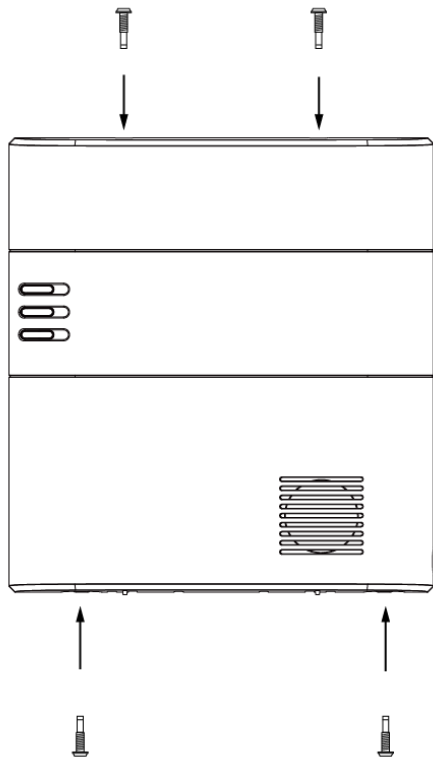

Figure 4
- I. Replace the back cover, wire the cable through the side hole and tighten the 4 fixing screws. (figure 4)